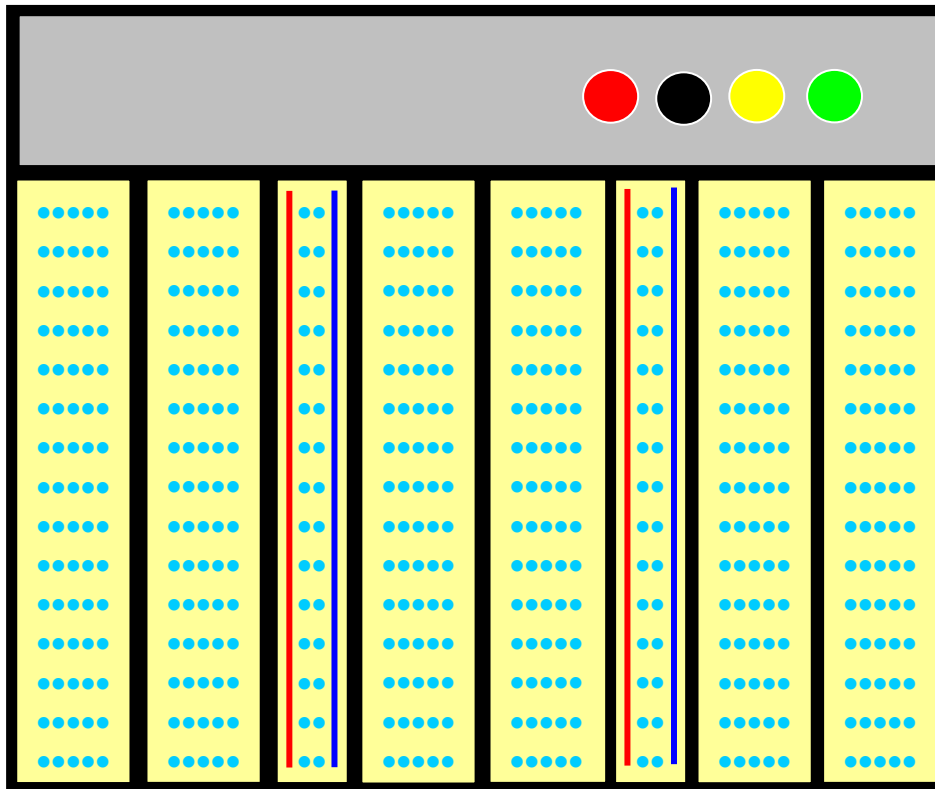

Figure 1.1: Breadboard Drawing
- b) Use the breadboard drawing shown in Figure 1.1 as a model for your bread board. Draw lines connecting “holes” which are electrically connected. All “holes” that are electrically connected are said to share a **common node**.